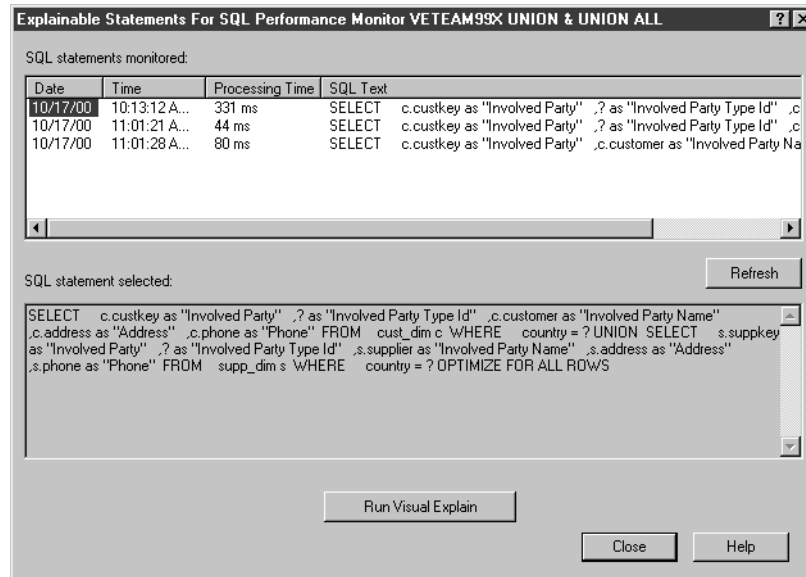

Figure 14. Explainable Statements
1. Right-click the monitor object that has been used to collect the performance data, and select **List Explainable Statements**. The Explainable Statements For SQL Performance Monitor panel appears as shown in Figure 14 on page xxv.